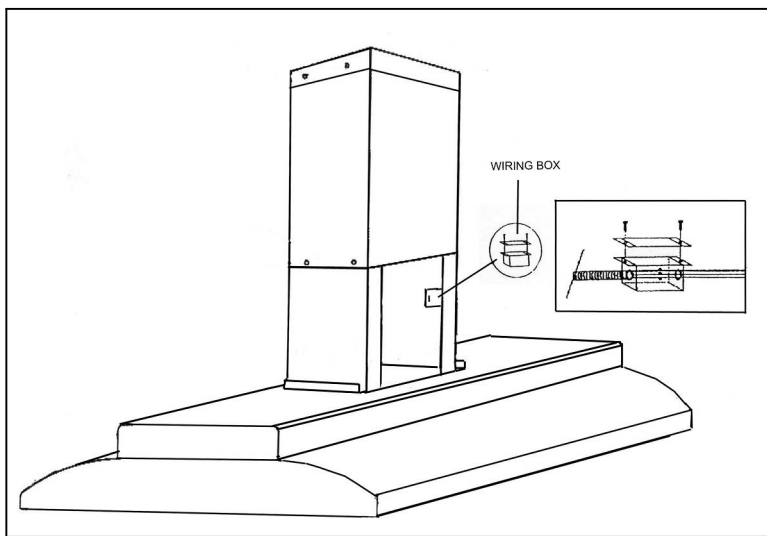

Figure 7
- Remove the wiring box cover as shown in Figure 7. Remove the knockout from the wiring box.